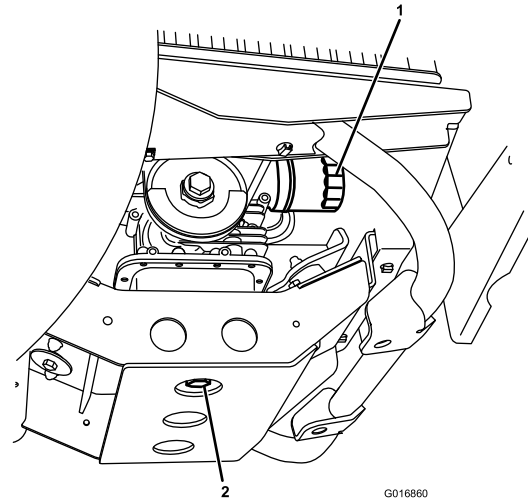

Figure 24
5. Remove the drain plug (Figure 24) and let the oil flow into a drain pan. When the oil stops, install the drain plug.
2. Remove the existing oil filter (Figure 24).